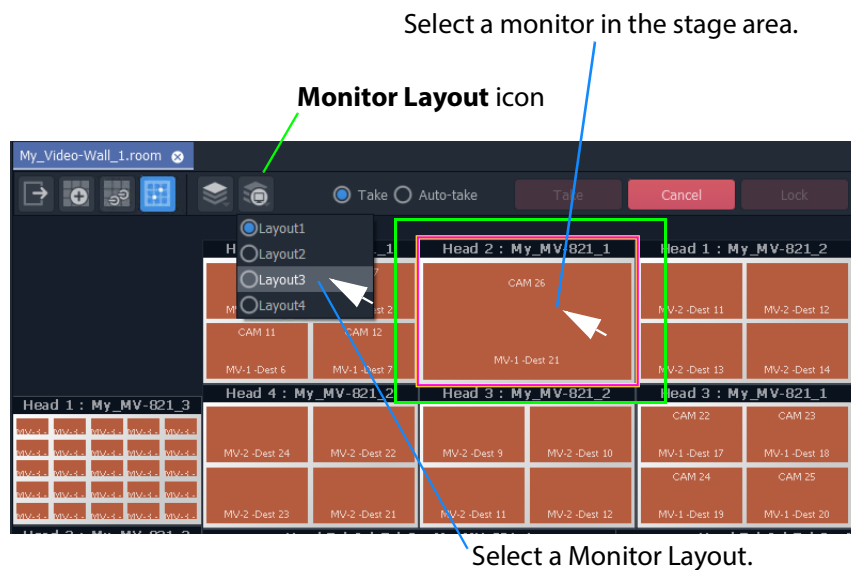

Fig. 15-90: Select Alternate Monitor Layout
- 1 Select a monitor in the **X/Y Routing** screen stage area. (See Figure 15-90.)
- 2 Click on the **Monitor Layout** icon in the **Room Editor** tool bar and select the required **Monitor Layout** to show. (See Figure 15-90.)